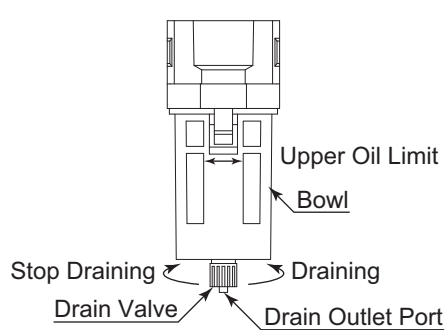

Fig. 20
- Draining from Air Filter (Fig. 20) Opening and closing the Drain Valve. Counterclockwise direction : Draining Clockwise direction : Stop draining